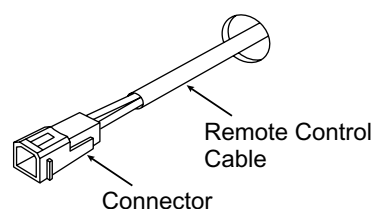

fig.2
3. Run the cable provided through the hole in the wall-ensuring that the end fitted with the connector is nearest the controller. (fig. 2)